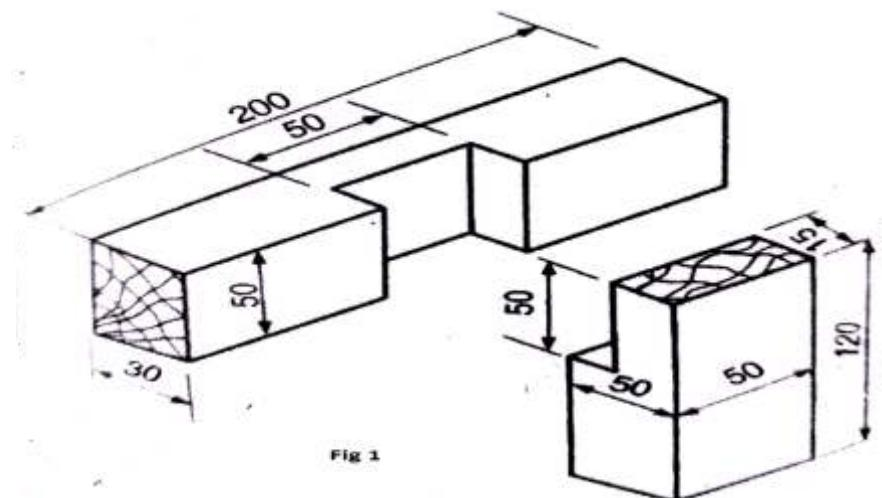

Fig 1
- Q.3 The detail drawing of two parts of Tee halving joint is shown in fig 1. Study the drawing carefully, assemble the two parts together and draw: